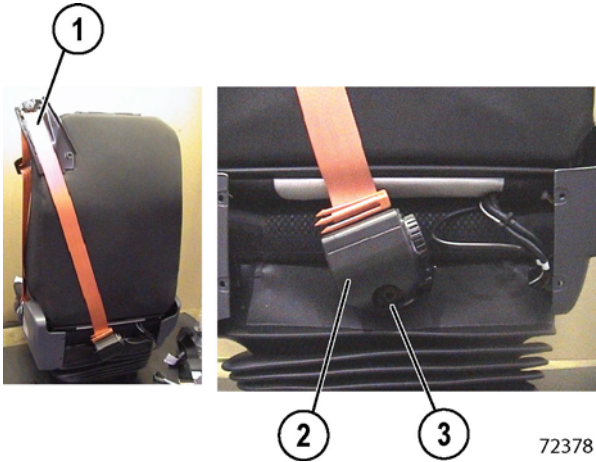

FIGURE 3-38.
8. Align new seat belt retractor (2, Figure 3-38) with the upper seat belt mount (1). Install seat belt retractor with a 16 mm long bolt (3) and tighten to **$35 \pm 5 \text{ N}\cdot\text{m}$ ($26 \pm 4 \text{ ft lb}$)**.